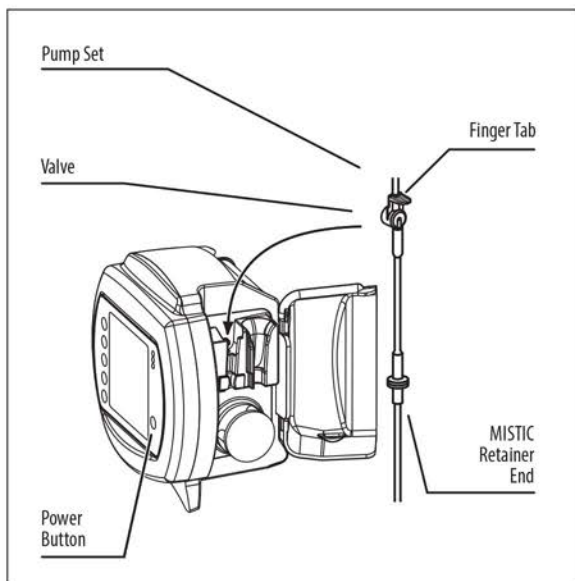

Figure 6A.
2. Load the pump set by holding the finger tab on the valve, and inserting the valve down into the slot on the left. (Figure 6A)